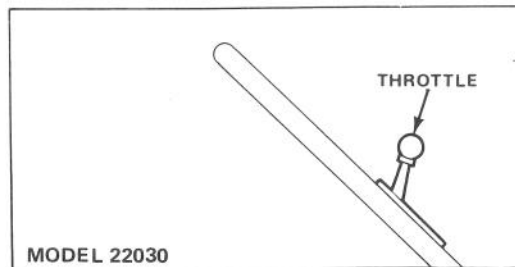

Figure 5
3. **STARTING** (Model 22030) — Move throttle to CHOKE. Pull fingertip starter out slowly until positive engagement results; then pull vigorously to start the engine. Regulate throttle as desired when engine starts (Fig. 5).